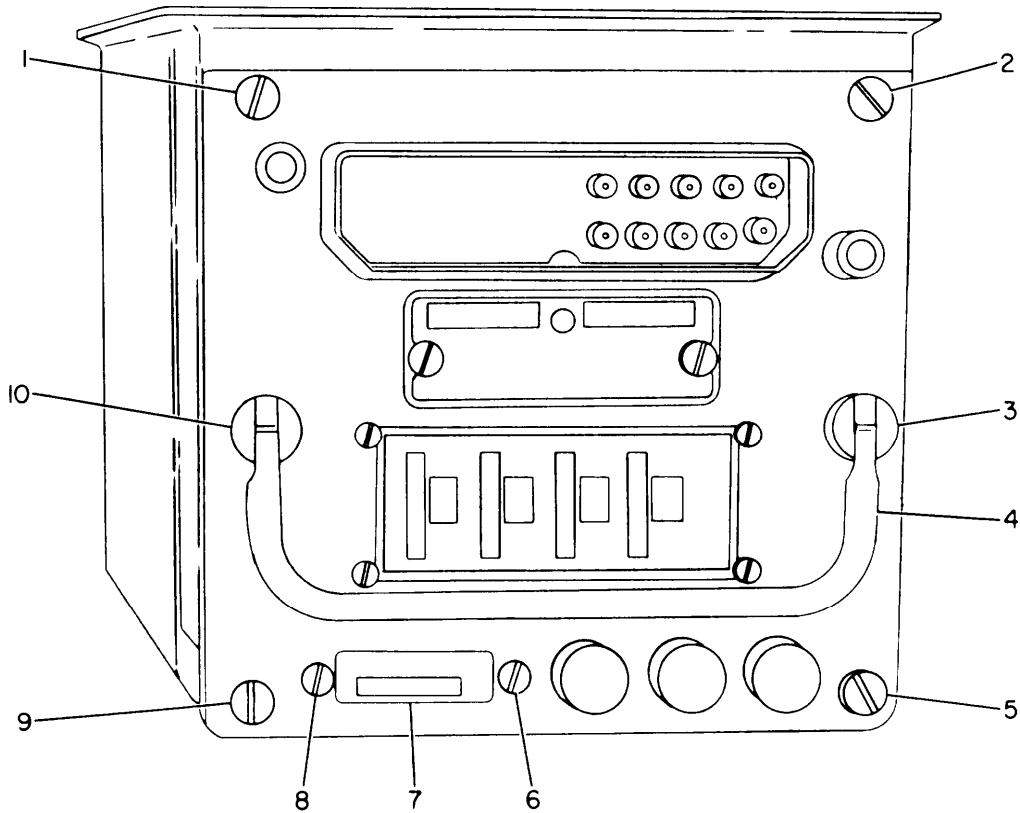

Figure 4-20. Faceplate Removal
Remove four slotted screws (1, 2, 5, and 9, figure 4-20) and lift off faceplate. (The faceplate and its internal components are the only components that may be removed without performing any other disassembly tasks.)
j. Unscrew two nuts (6 and 8, figure 4-20) and remove elapsed time indicator (7, figure 4-20).
k. Unscrew two self-locking nut caps (3 and 10, figure 4-20) and remove carrying handle (4, figure 4-20).